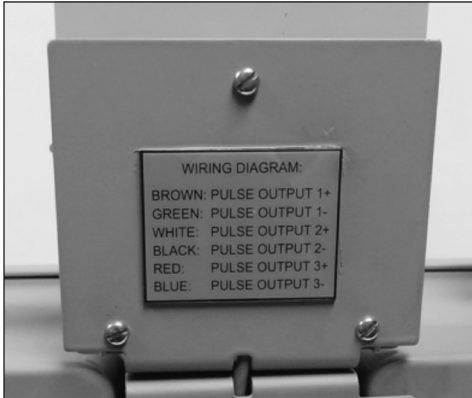

Figure 7.26 Example - Lower screws and nuts installed
- Now install the bottom set of screws and nuts as shown in Figure 7.26 Example. Once all three sets of screws and nuts are installed they can be tightened.